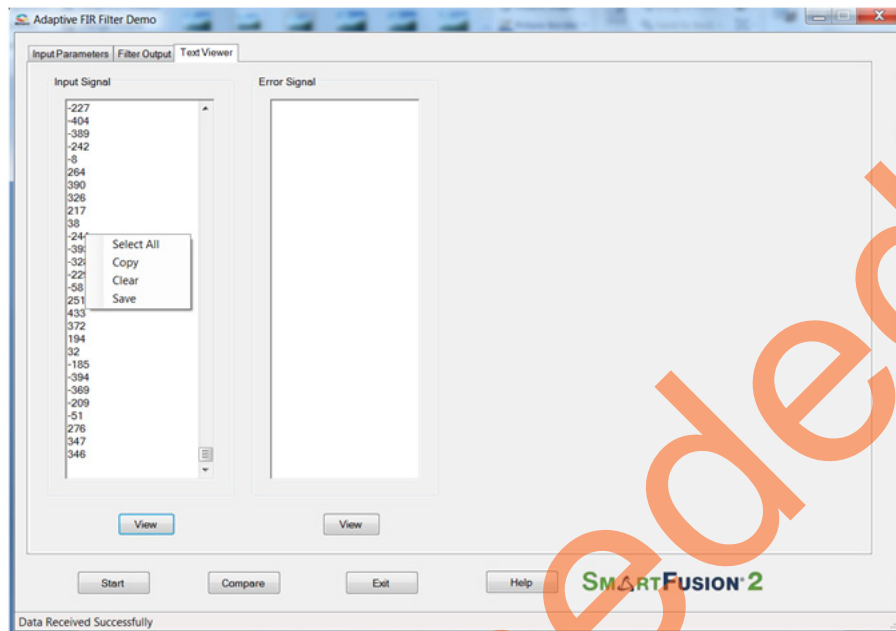

Figure 30 • Text Viewer - Coefficients Save Options
17. To save the Input Signal as a text file, right-click on the Input Signal window. The Input Signal window displays different options as shown in Figure 30.